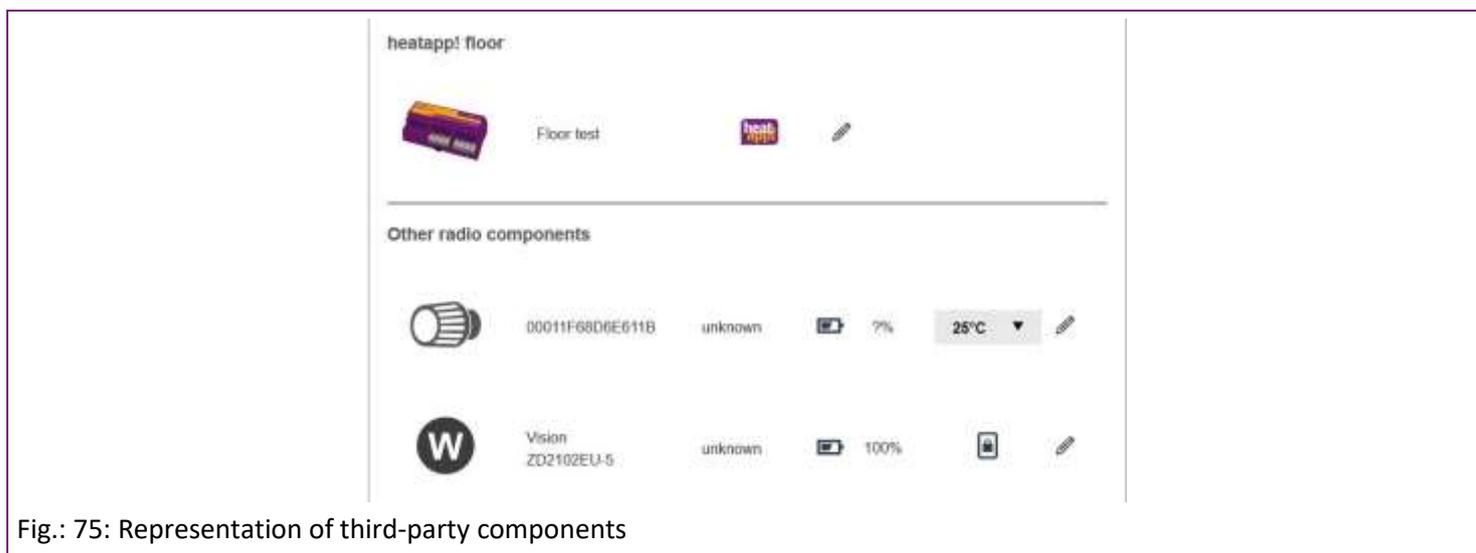

Fig.: 75: Representation of third-party components
6. In Fig.: 75, it is apparent that another manufacturer's actuator and room sensor have been registered. The actuator makes it possible to set the desired room temperature via the drop-down field.